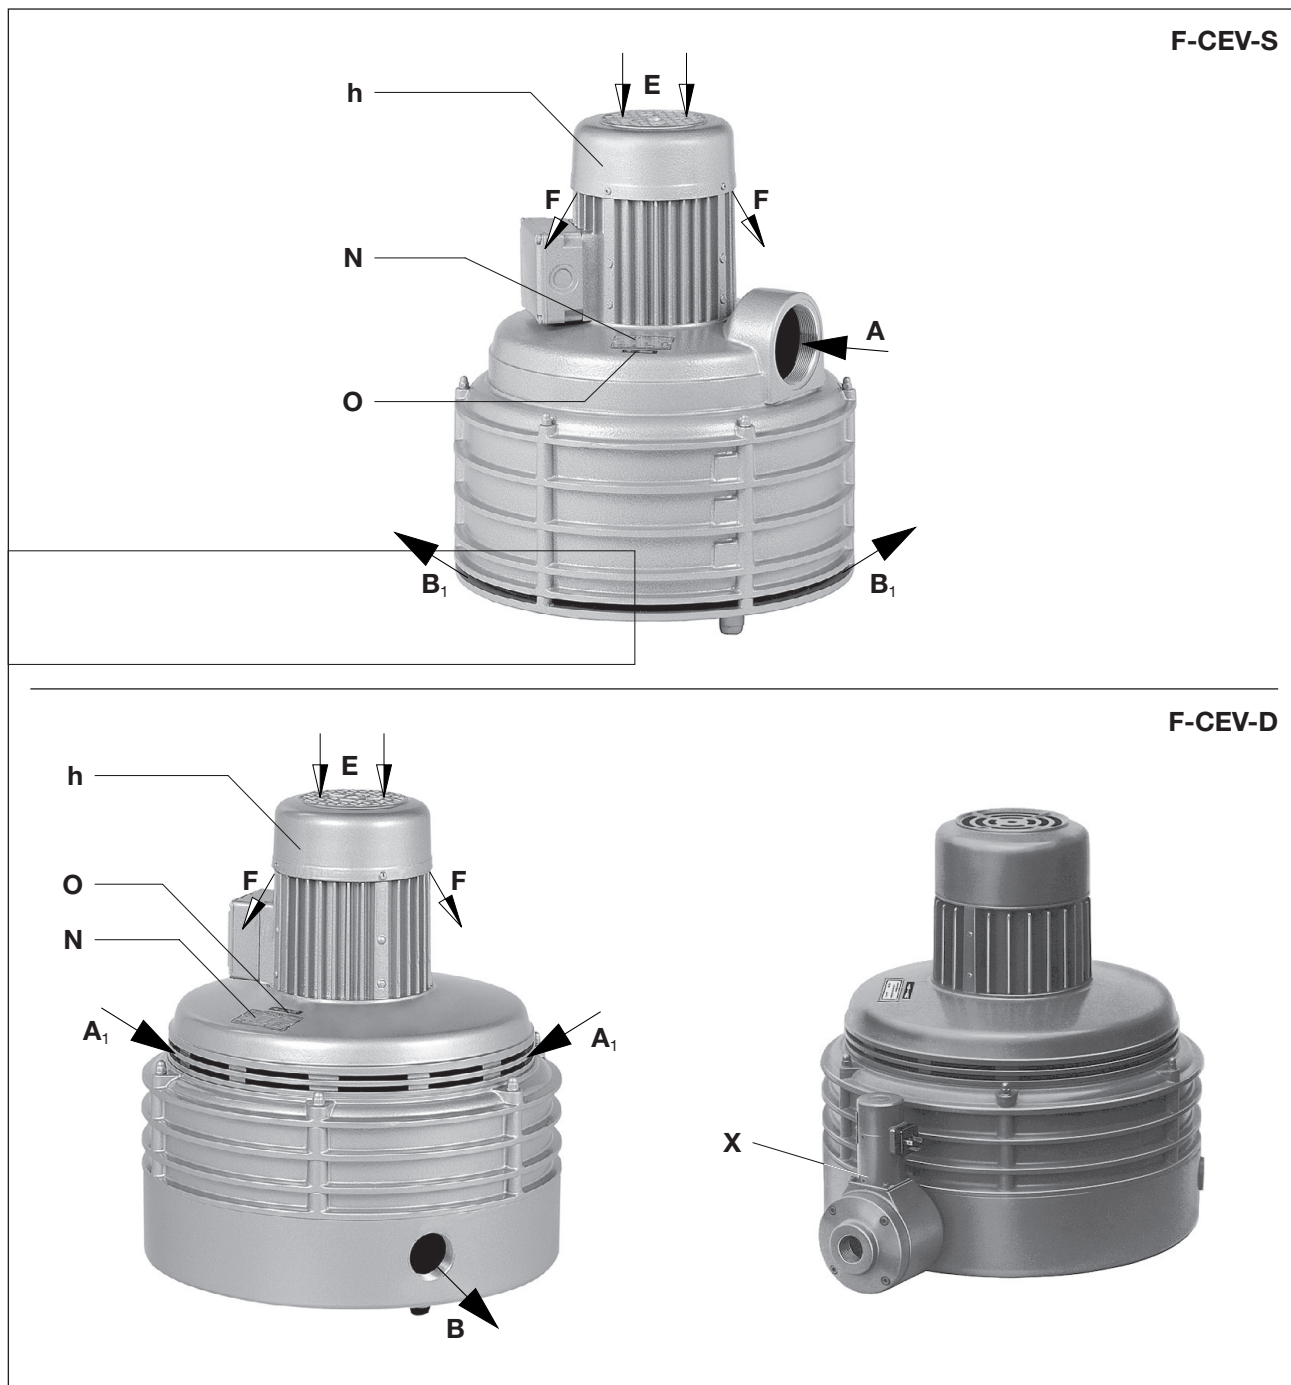

Fig. 2 Radial blower F-CEV-S (Vacuum version) / F-CEV-D (Pressure version)
Model F-CEV-S is equipped with a vacuum connection (Fig. 2/A) and the F-CEV-D (Fig. 2/B) with a pressure connection). The motor and blower form a very compact unit. A shaft seal is fitted between the bearing and pumping chamber. The impellers are fixed onto an extended vertical motorshaft.
All F-CEV-D can be equipped with a solenoid valve (Fig. 2/X).
They have capacities upto 9,3 m³/min and obtain a pressure difference of up to 125 mbar. The pressure and vacuum limits are indicated on the data plate (Fig. 2/N). The performance curves showing capacity against vacuum or pressure can be seen in data sheets D 701 (F-CEV-D) and D 702 (F-CEV-S).
The cooling air inlets (Fig. 2/E) and the cooling air outlets (Fig. 2/F) must be at least 10 cm away from adjacent walls. Cooling air coming out must not be sucked in again. Additionally care should be taken that the suction air entry (Fig. 2/A1) and the exhaust air exit (Fig. 2/B1) are not obscured.
- a) When on vacuum operation (F-CEV-S) connect the suction pipe at (Fig. 2/A) and when on pressure operation (F-CEV-D) connect the pressure pipe at (Fig. 2/B).
- a) The motor's electrical data is given on the data plate (Fig. 2/N) or on the motor data plate. The motors comply with DIN EN 60034 and are in protection class IP 54 and insulation class F. The appropriate connection diagram is located in the motor's terminal box (not for the plug connection version). The motor data must be compared with the data of the existing mains network (current type, voltage, network frequency, permitted current value).
- c) When using a solenoid valve (Fig. 2/X) this must also be connected. The information concerning the voltage for the solenoid should also be considered.
- ▷ The intended direction of rotation of the drive shaft is shown by the rotary direction arrow (Fig. 2/O).
- a) Start the motor briefly (max. two seconds) to check the direction of rotation. The direction of rotation can be seen by looking through the slots of the motor fan cover (Fig. 2/h). When looking at the motor fan, it must rotate clockwise.